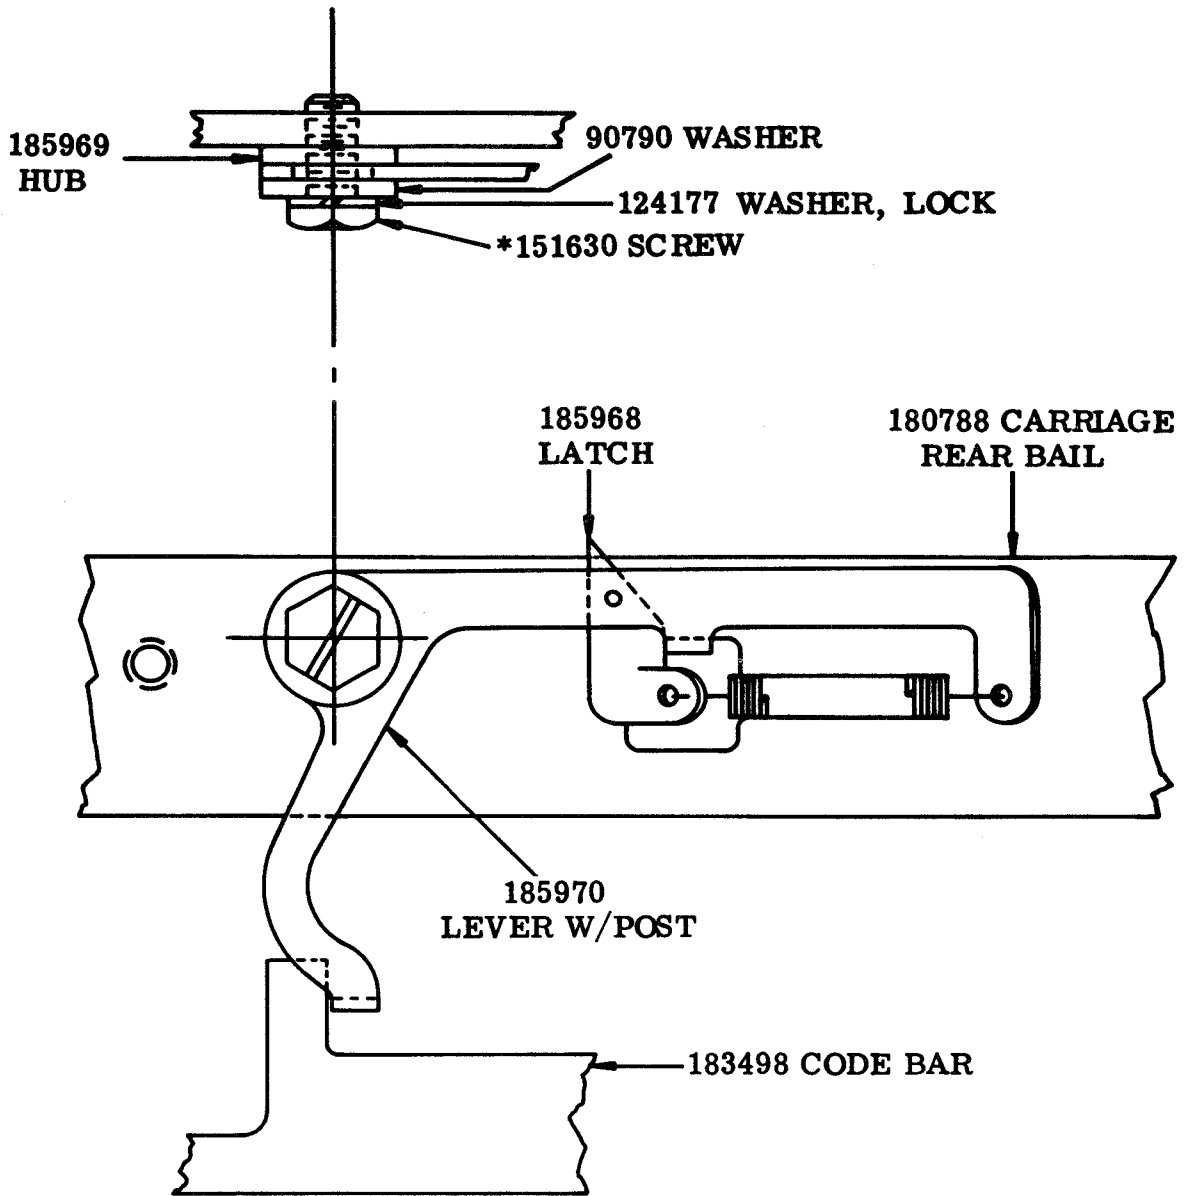

FIGURE 1
2. INSTALLATION (Figures 1 and 2)
c. Assemble the 185970 lever W/Post, 121923 spring, 185968 latch, 185969 hub, 90790 washer, 151630 screw and 124177 lock washer. (See figure 1)